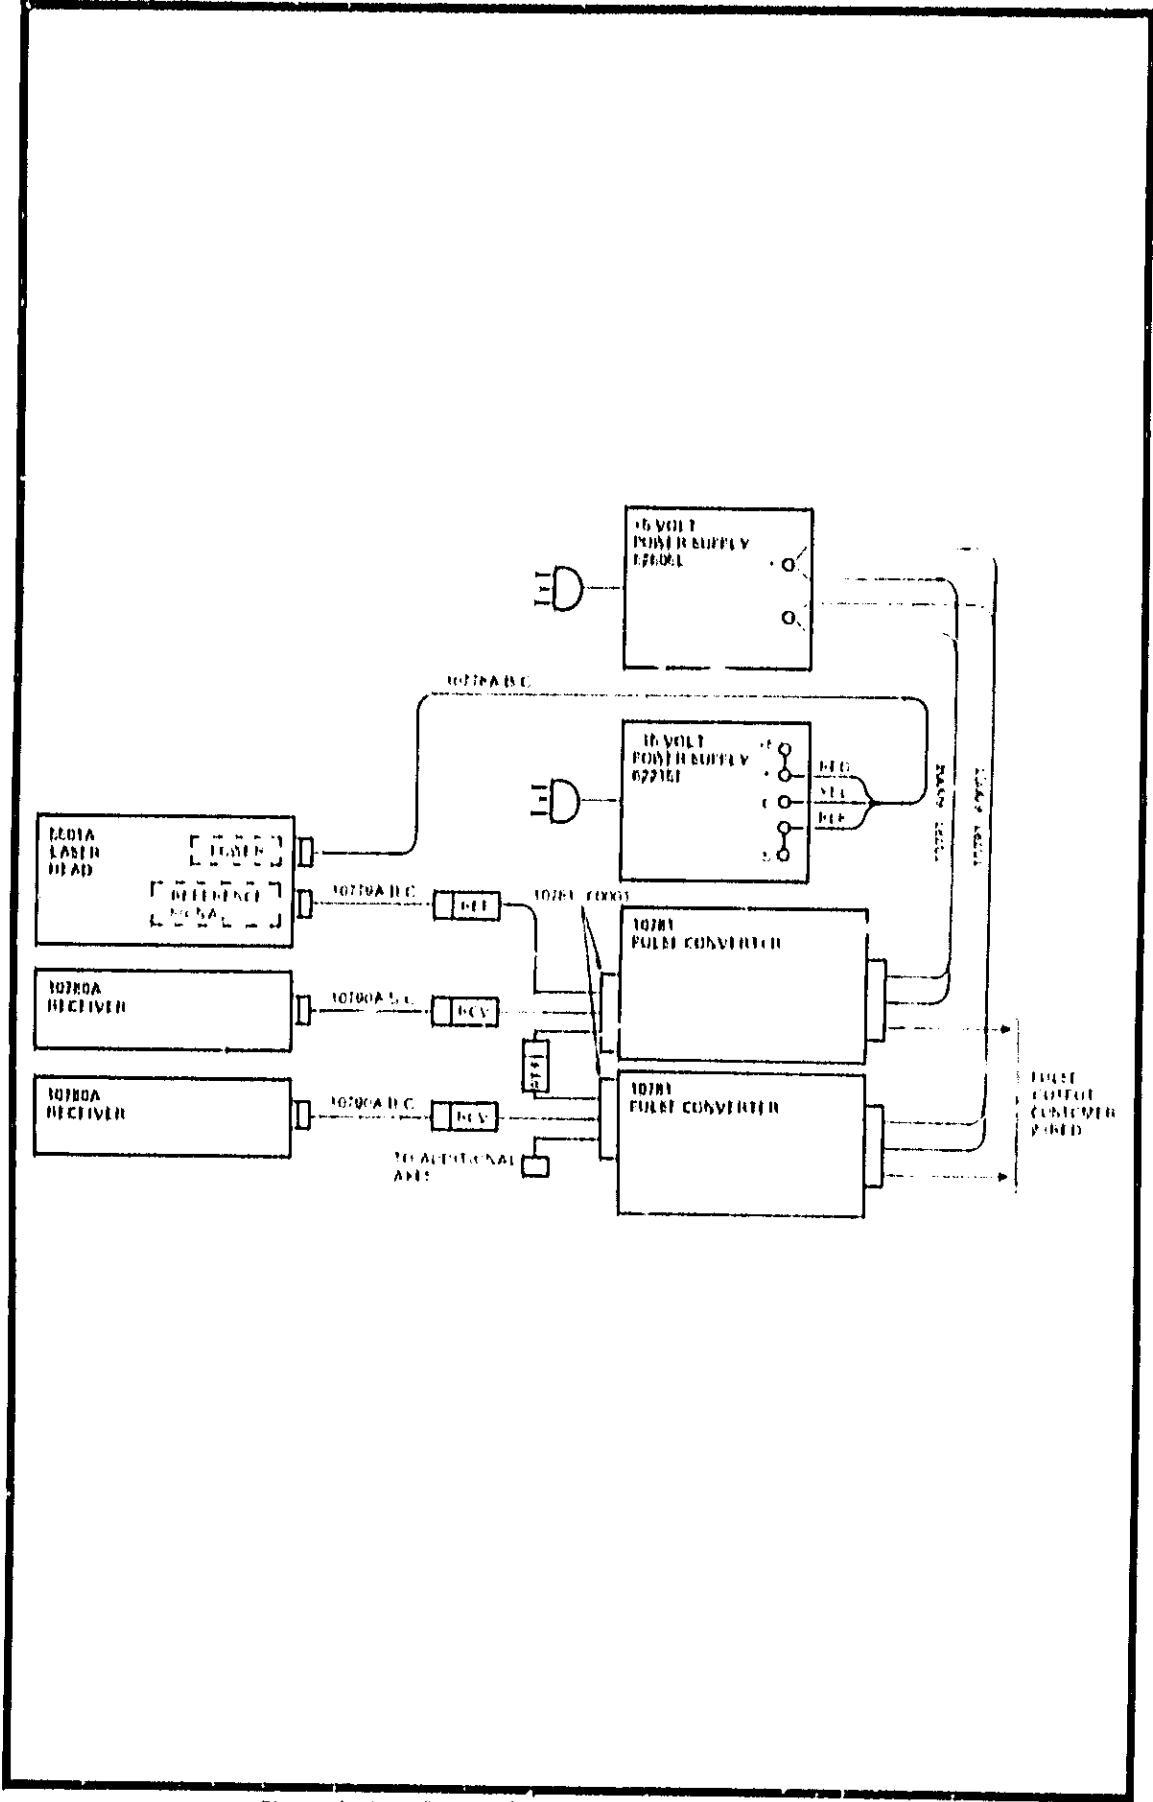

Figure 5-11. 10781A Pulse Converter Electronics Interconnecting
- Connect the reference and measurement cable from the laser head and first receiver to the applicable 10781A Pulse Converter (see Figure 5-11 for a typical system interconnect).